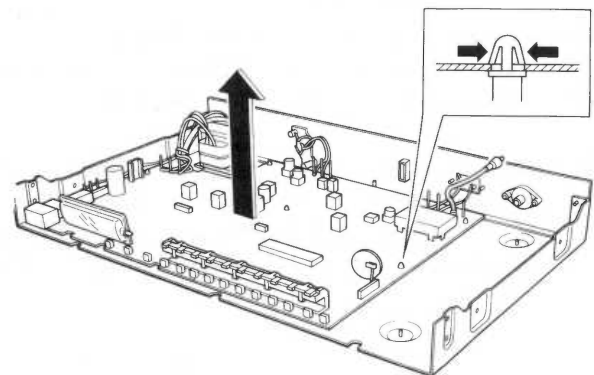

Fig. 8
3. Removing the TUNER UNIT (Fig. 8)